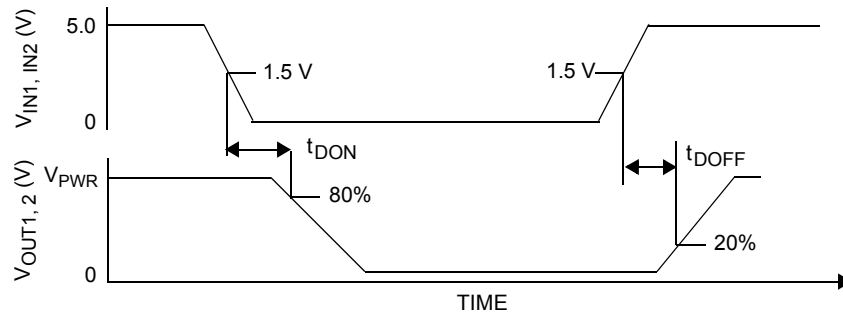

Figure 4. Output Delay Time
23. Output Delay is the time duration from 1.5 V on the IN1 or IN2 input signal to the 20% or 80% point (dependent on the transition direction) of the OUT1 or OUT2 signal. If the output is transitioning HIGH-to-LOW, the delay is from 1.5 V on the input signal to the 80% point of the output response signal. If the output is transitioning LOW-to-HIGH, the delay is from 1.5 V on the input signal to the 20% point of the output response signal. See Figure 4, page 11.